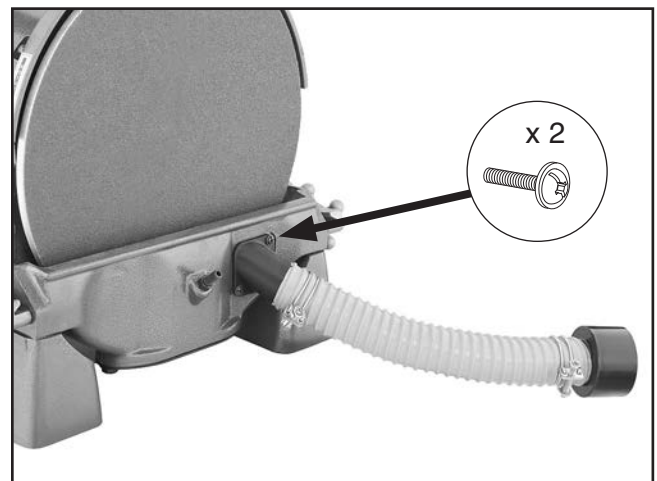

Figure 17. Sanding disc dust hose assembly attached.
7. Attach the dust hose assembly to the lower disc bracket with the (2) #10-24 x $\frac{3}{8}$ " flange screws, as shown in **Figure 17**.